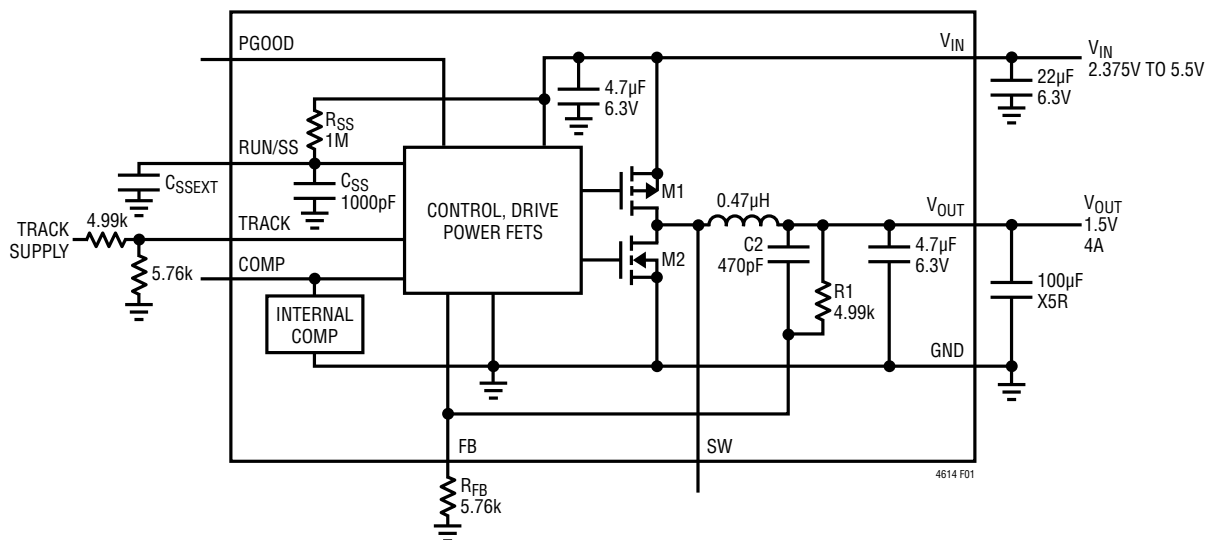

Figure 1. Simplified LTM4614 Block Diagram of Each Switching Regulator Channel
**ELECTRICAL CHARACTERISTICS** The ● denotes the specifications which apply over the full internal operating temperature range (Note 2), otherwise specifications are at  $T_A = 25^\circ\text{C}$ .  $V_{IN} = 5V$  unless otherwise noted. Refer to Figure 1. Specified as each channel (Note 5).
The ● denotes the specifications which apply over the full internal operating temperature range (Note 2), otherwise specifications are at  $T_A = 25^\circ\text{C}$ .  $V_{IN} = 5\text{V}$  unless otherwise noted. Refer to Figure 1. Specified as each channel (Note 5).
## DECOUPLING REQUIREMENTS $T_A = 25^\circ\text{C}$ . Use Figure 1 configuration for each channel.
where  $R_{\text{SS}}$  and  $C_{\text{SS}}$  are shown in the Block Diagram of Figure 1, and 1.8V is the soft-start upper range. The soft-start function can also be used to control the output ramp-up time, so that another regulator can be easily tracked to it. To turn off the module while  $V_{\text{IN}}$  remains active, the RUN/SS pin should be pulled low with a falling edge  $\leq 1\mu\text{s}$  to ensure the device does not transition slowly through the internal undervoltage lockout threshold.